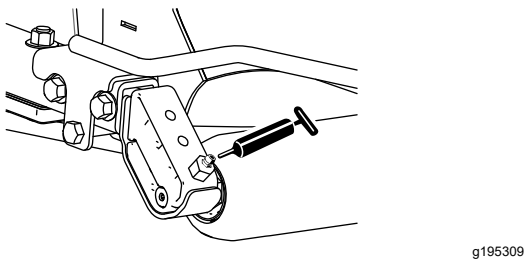

Figure 45
- 2 (per cutting unit) rear roller bearings (Figure 45)